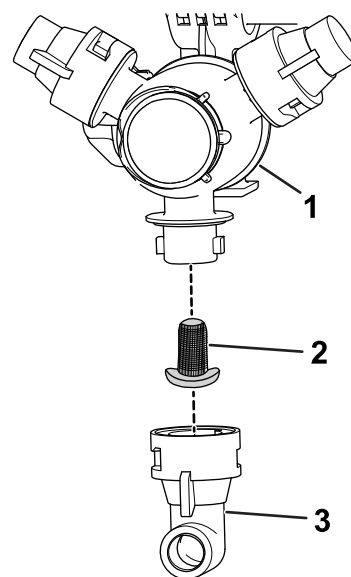

Figure 98
2. Remove the nozzle from the spray turret (Figure 98).
3. Remove the nozzle filter (Figure 98).
5. Install the nozzle filter (Figure 98).
6. Install the nozzle onto the spray turret (Figure 98).